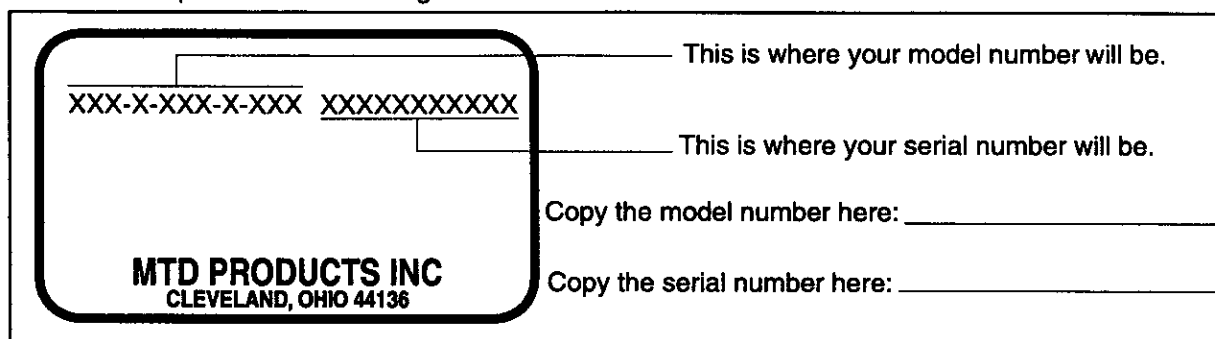

Figure 2
- The model plate will look like Figure 2